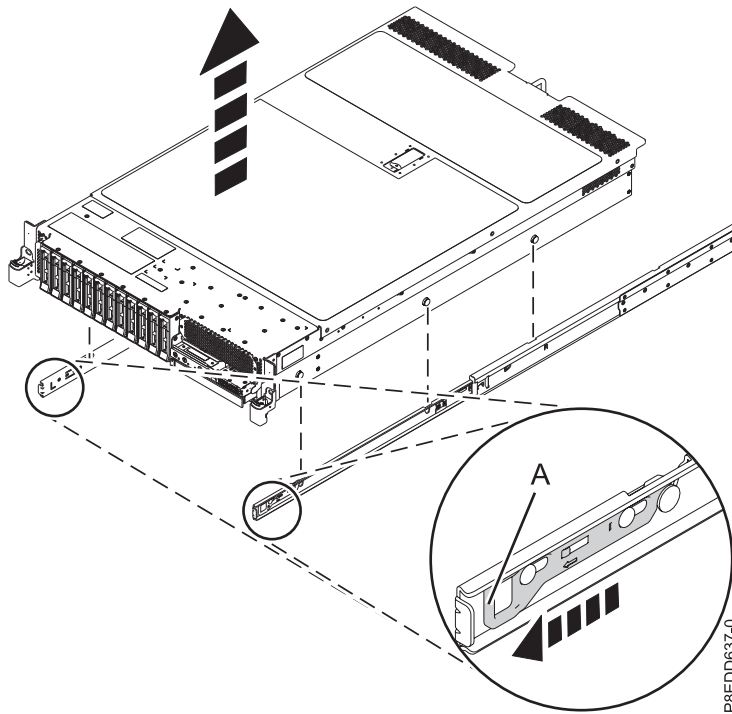

Figure 2. Removing the system from the rack
- a. Pull rail latch (A) toward you, then carefully lift the front of the server until the front nail heads slip out of the front slots on both of the slide rails, as shown in Figure 2 on page 5.